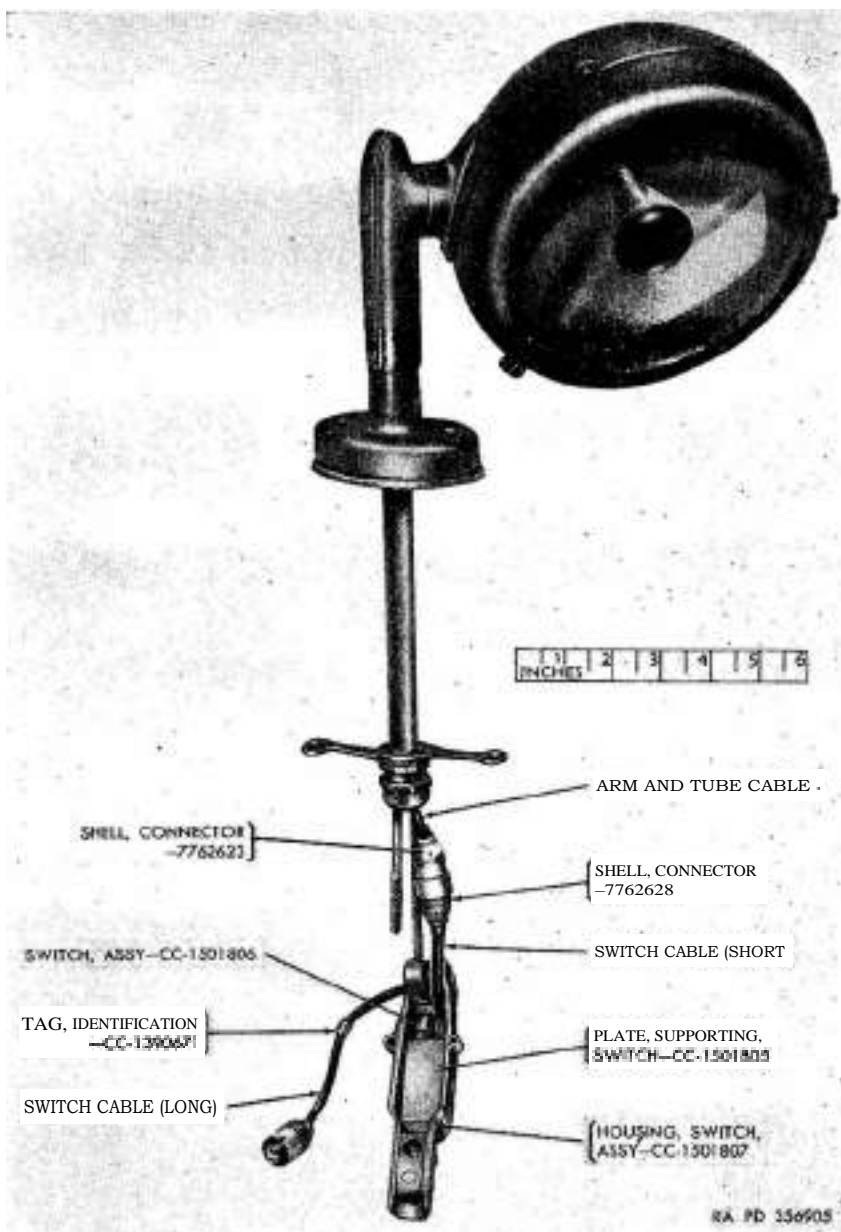

Figure 233. Switch and switch housing assemblies removed.
- (3) Separate connector shells (*fig. 233*) and connector. This will release arm and tube cable from switch cable (short).
- (4) Pull switch housing assembly from arm and tube assem-
- (2) Inspect switch housing assembly (*fig. 233*) for cracks, broken or seized switch lever, cracked or distorted contact plate, or damaged threads. Replace switch housing if any of these conditions exist.
- (3) Check switch assembly (*fig. 233*) for current flow to determine if contacts are in good condition. If current flow is not satisfactory, replace switch assembly. Inspect switch cables, cable tube, and cable spring for deterioration or other visual damage. If these parts are not in good condition replace switch assembly.
- (4) Inspect switch supporting plate (fig. 233) for distortion. Replace plate if it is not in good condition.
e. Assemble Switch Assembly in Switch Housing Assembly (fig. 233).
- (1) Insert switch cable (long) through hole in switch housing assembly (from inside). Make certain coil spring around cable extends through hole. Install identification tag on cable.
- (2) Position cable clamp on switch housing assembly and install a No. 6 lock washer and No. 6-32NC x $\frac{1}{4}$ round-head machine screw. Tighten screw.
- (3) Install female connector shells, connector bushings, and connector grommets on switch cables. Install cable connectors on switch cables.
- (4) Install switch supporting plate on switch assembly.